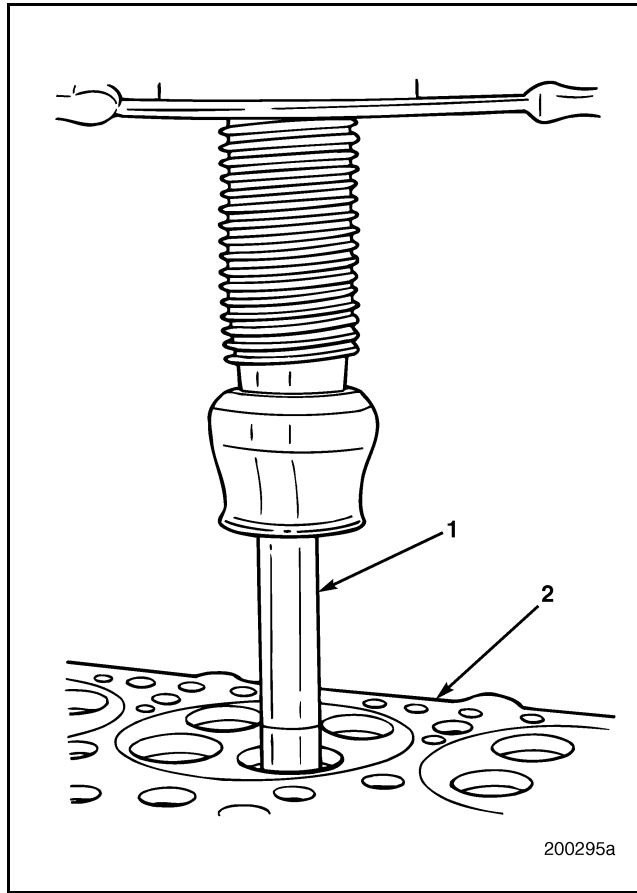

Figure 258 — Valve Guide Remover J 37482
- Insert valve guide remover J 37482 into the valve guide from the deck side of the cylinder head (Figure 258).